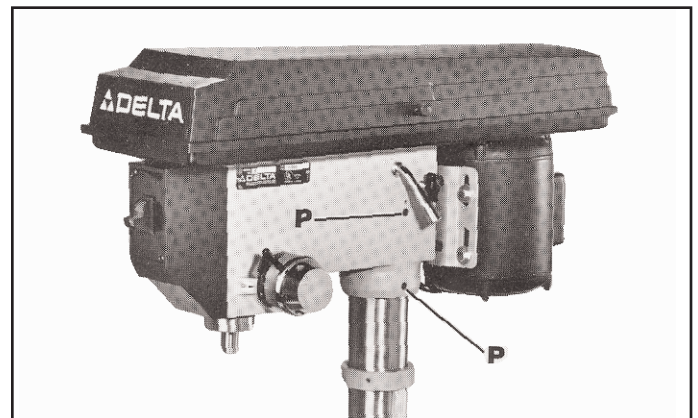

Fig. 9
9. Place the drill press head onto the column as far as it will go. After the drill press spindle is aligned with the table and base, tighten the two set screws (P) Fig. 9.